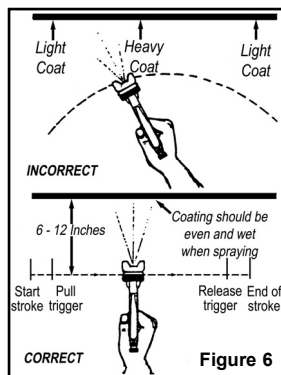

Figure 6
6. Begin spraying. Hold the gun about 6 to 9 inches from the work surface and while moving the gun from side to side, depress the trigger to begin applying material. To avoid blobs, runs and lap marks, keep the gun in motion at all times before, after and while the trigger is depressed (see Figure 6). Practice painting on a piece of scrap material or cardboard until the test coating results are acceptable, making adjustments as follows: